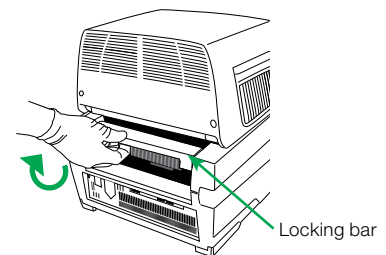
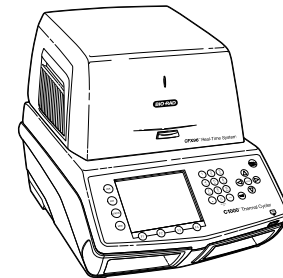

Fig. 2. Locking the CFX384 module into place.
Fig. 3. The CFX384 module positioned on the C1000 chassis.
4. Reach around the thermal cycler and pull up the locking bar (Figure 2) until it is flush with the sides of the module bay. This action moves the reaction module forward, locking it into place (Figure 3).